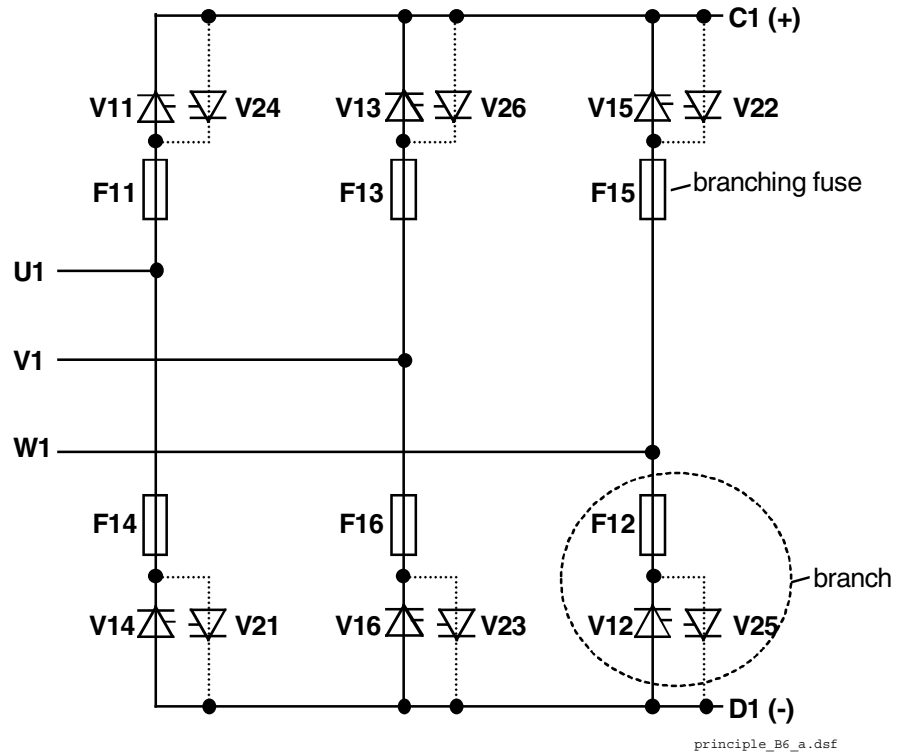

Figure 5-1 Anti-parallel B6-bridges with branching fuses
1. Find the defective branches by performing an OHM test (both polarities) between U1, V1, W1 and C1, D1 (see figure 5-1)
1. Find the defective branches by performing an OHM test (both polarities) between U1, V1, W1 and C1, D1 (see figure 5-1).